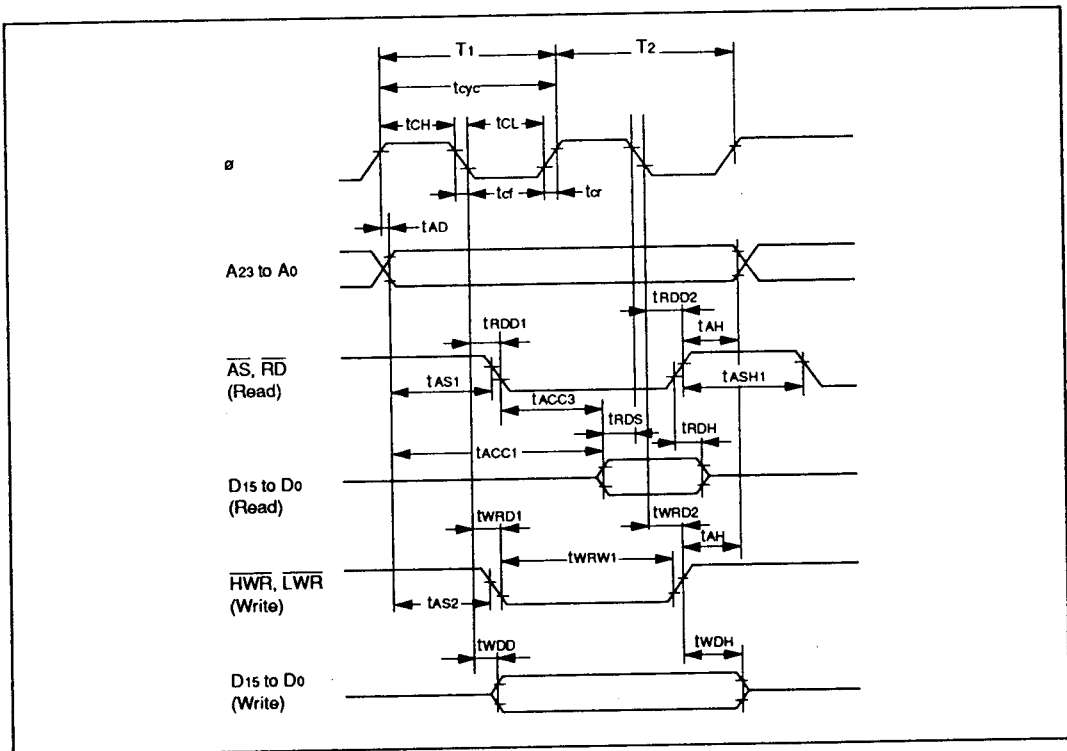

Figure 19-4 Basic Bus Cycle (Two-State Mode)
19.3.1 Bus timing	Figures 19-4 to 19-7